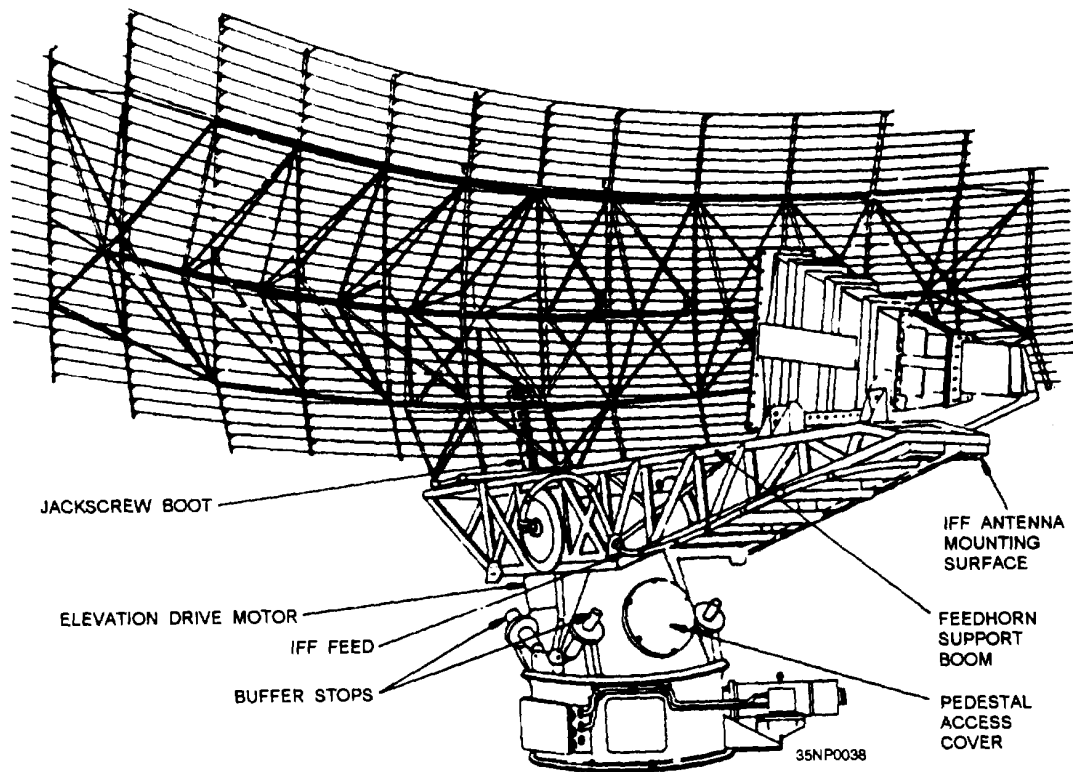

Figure 2-46.—AS-3263/SPS-49(V) antenna.
The AS-3263/SPS-49(V) antenna (fig. 2-46) consists of three major sections: the antenna base and